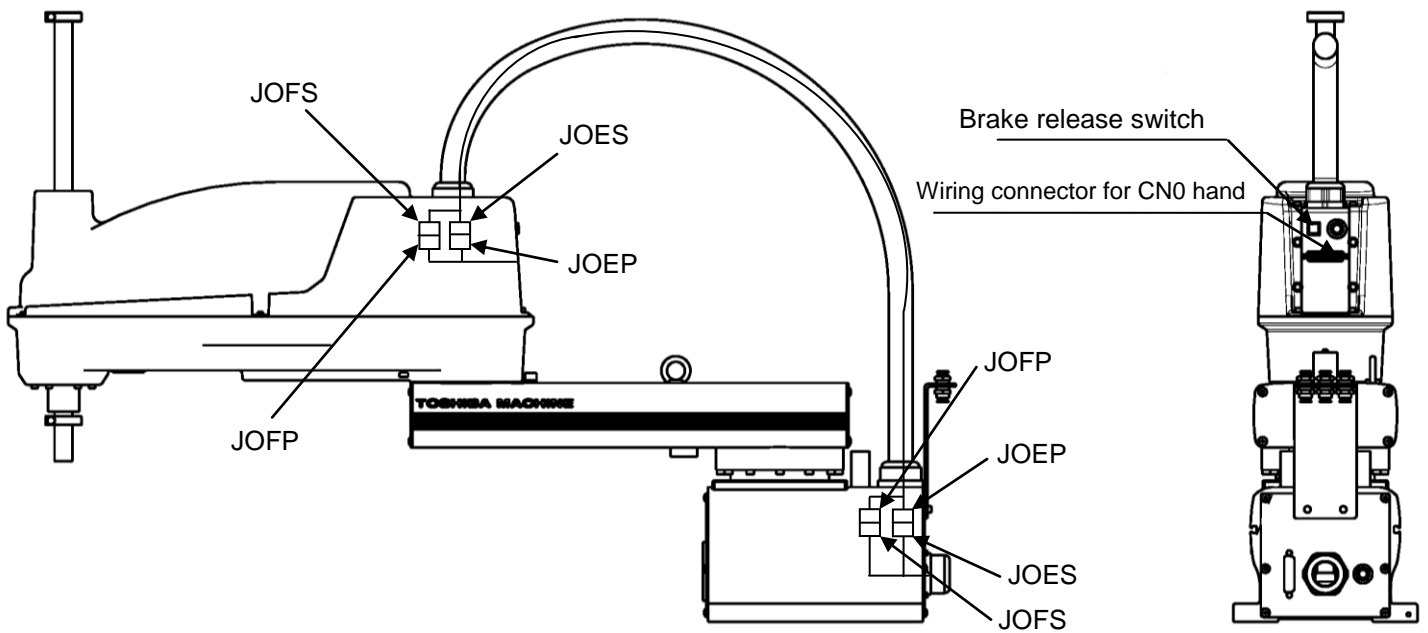

Fig. 21.6 Tool wiring (THL800, THL900 and THL1000)
Eight (8) input signals are provided for sensors, etc. and eight (8) control signals for solenoid valves, etc. A supply power signal of 24 VDC is also provided. They are connected to the controller. The wiring arrangement for these cables is shown in Figs. 21.6 and 21.7. The wires are connected to the connectors on the upper side of Arm 2. The user should provide the following connectors to connect the cables.